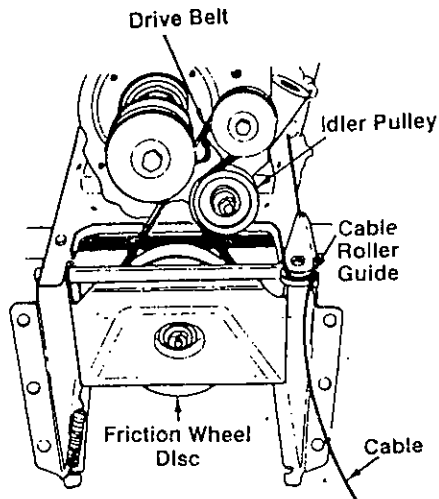

FIGURE 28
NOTE: When reassembling the two halves of the unit, the auger drive cable must be routed through the cable roller guides as shown in figure 28.
- Pull the idler pulley towards you and remove the drive belt from the pulley. You will find the idler pulley in front of the engine and under the belt cover that you removed earlier. See figure 28.